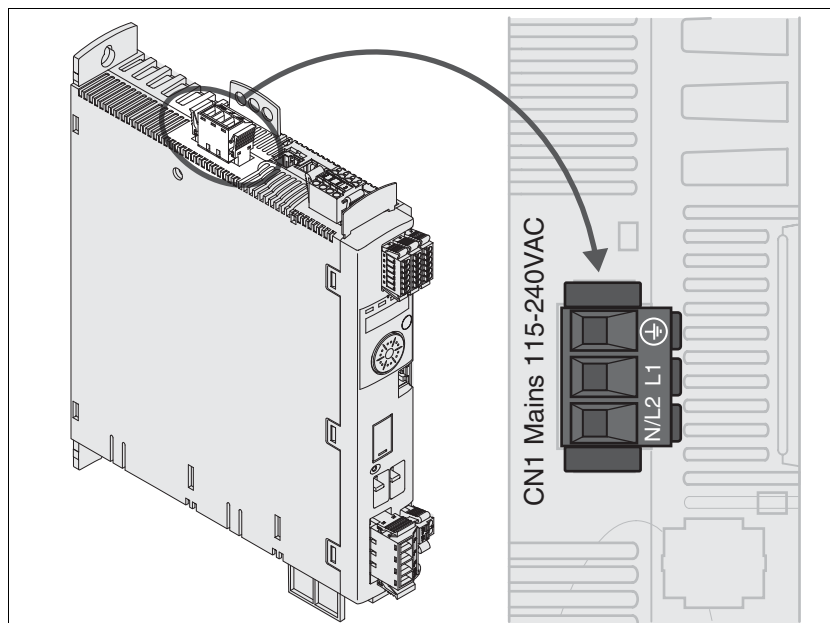

Figure 6.11 Wiring diagram power stage supply voltage for single-phase device.
- Connect the mains cable (Figure 6.11). Note the tightening torque specified for the terminal screws.